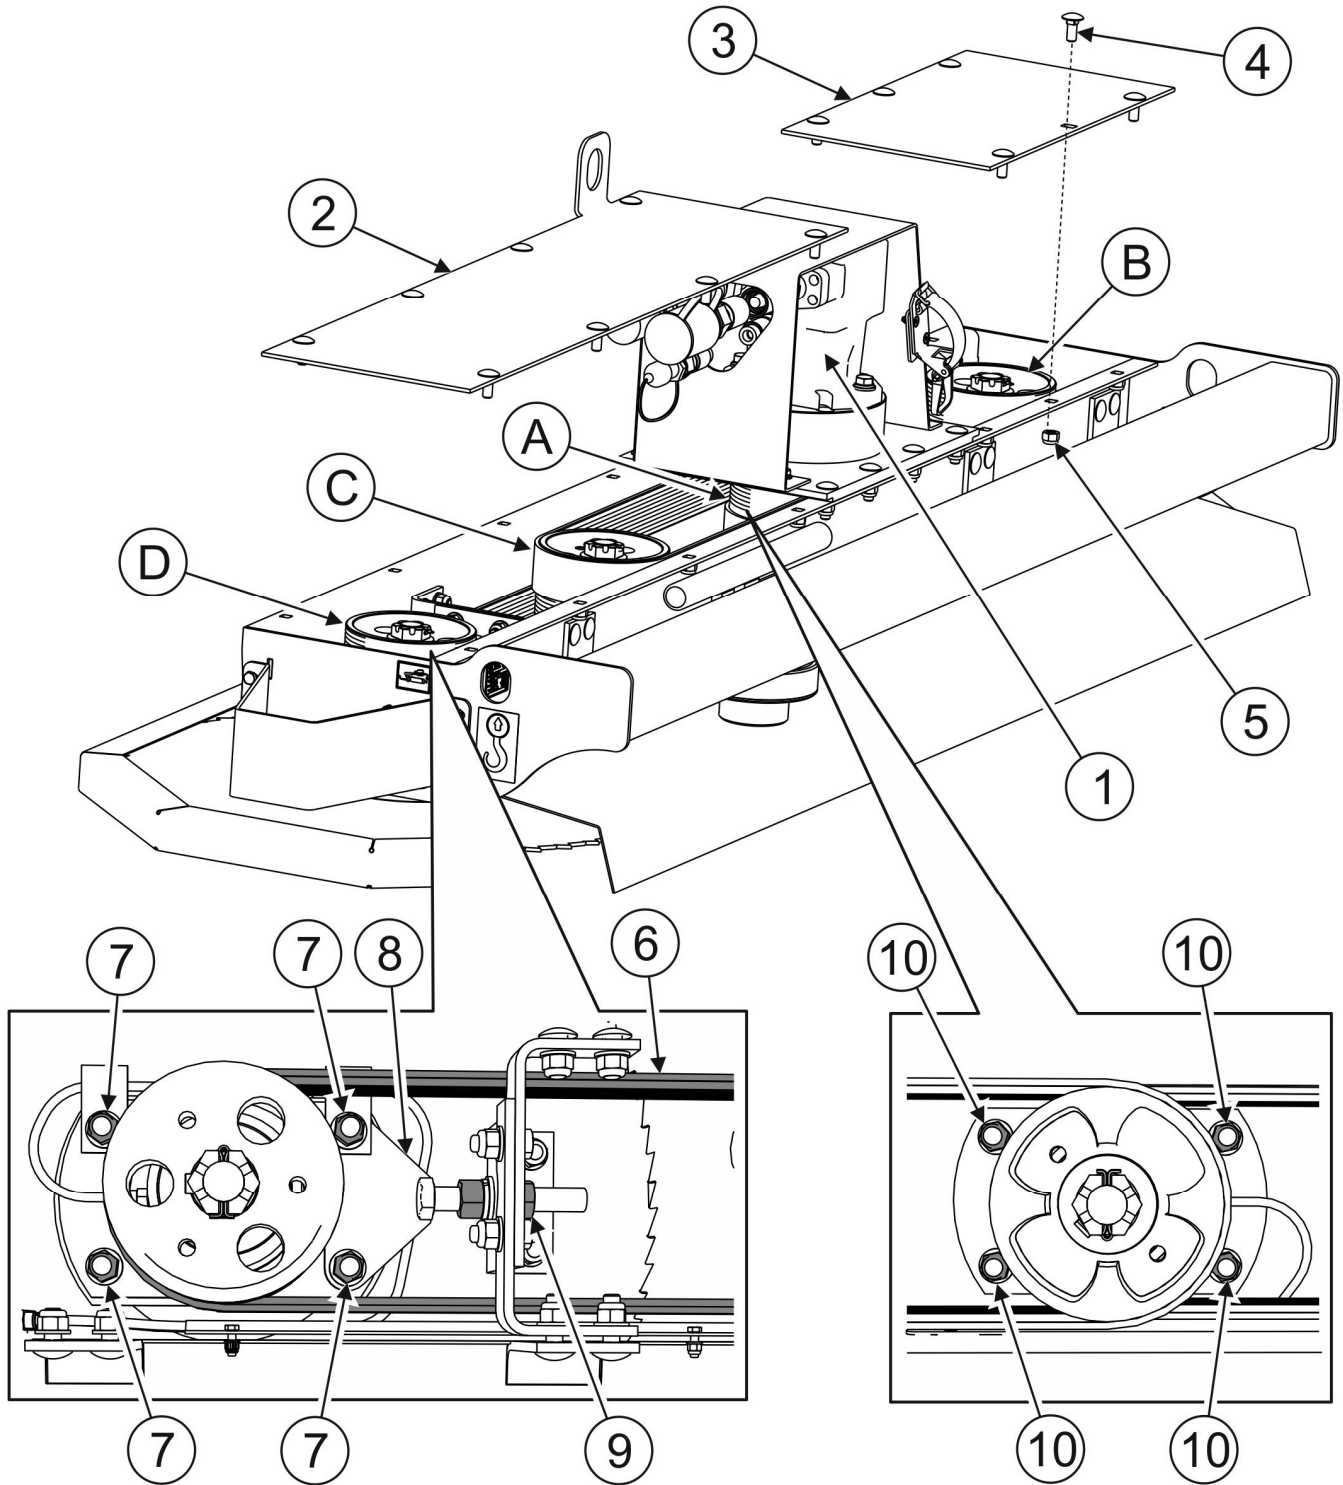
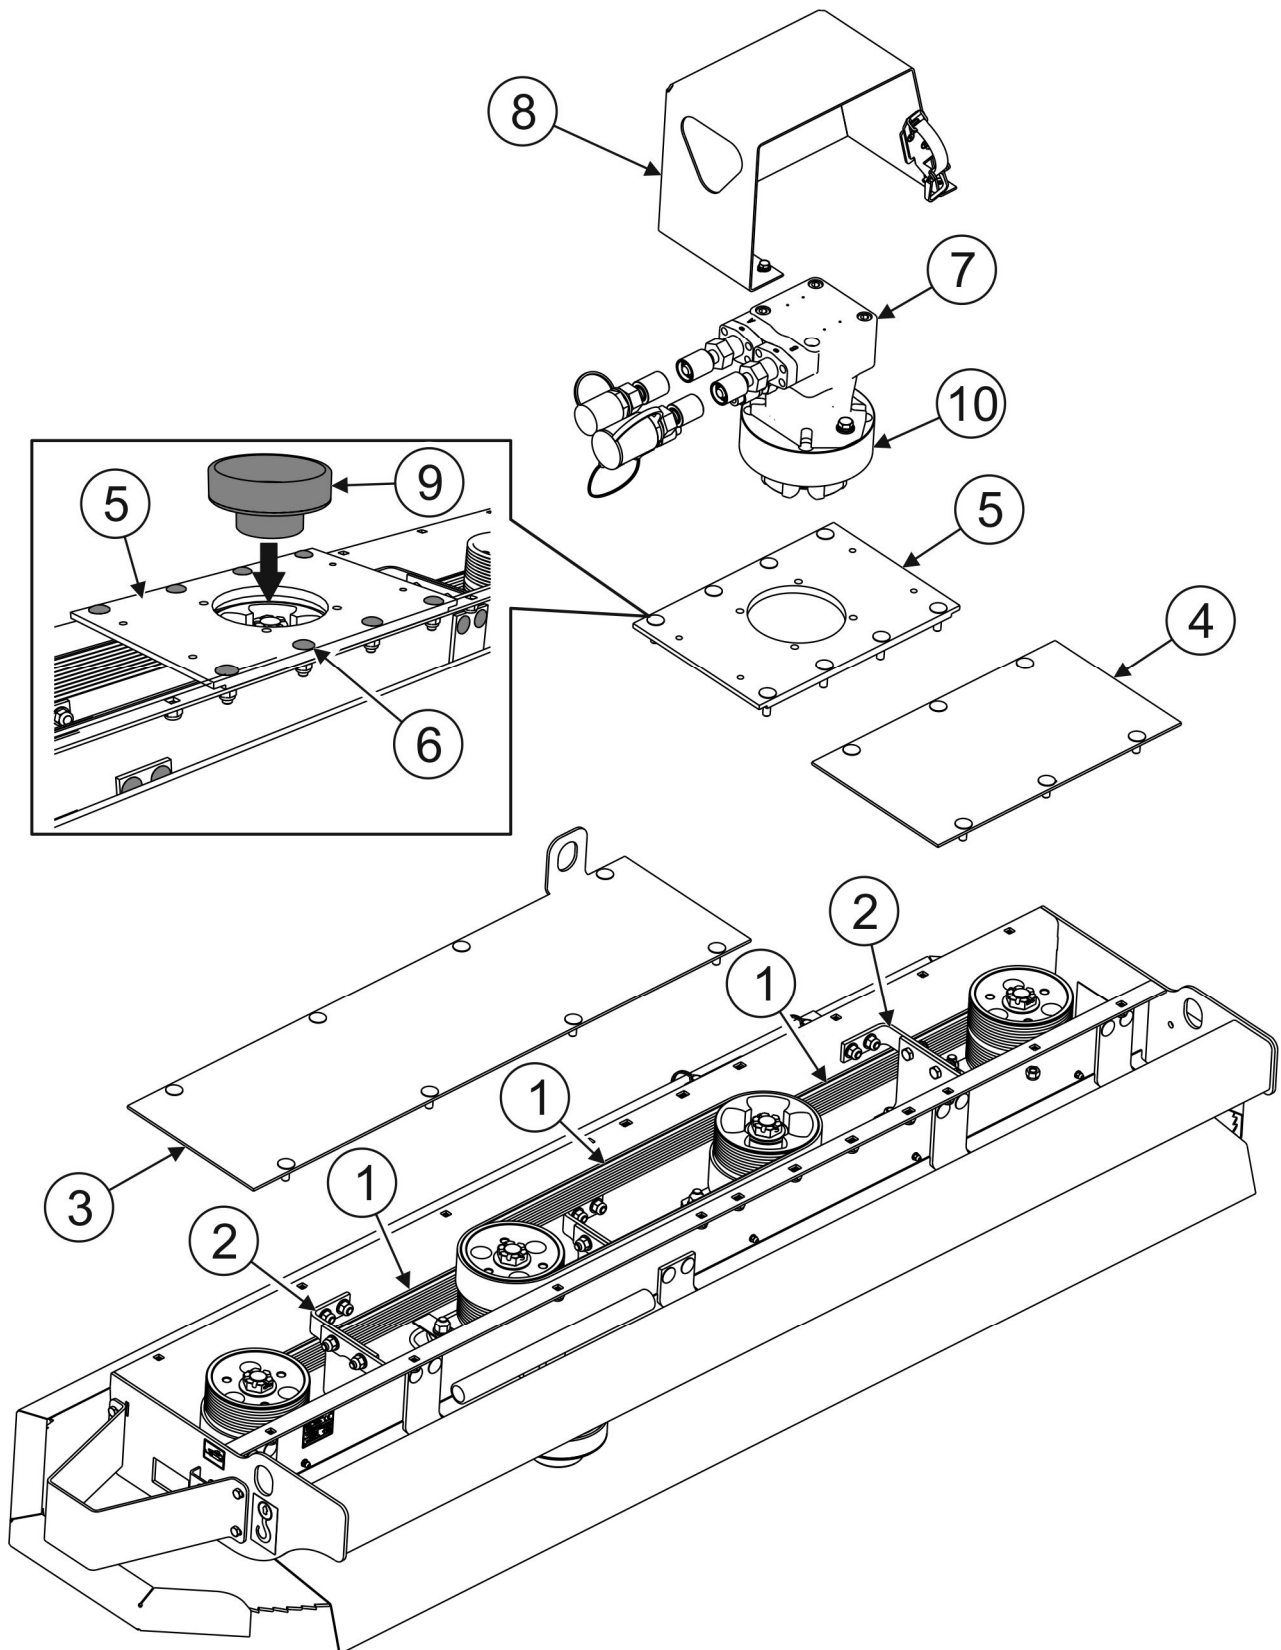

FIGURE 5.4 Checking and adjusting the tension of the serpentine belts
FIGURE 5.5 Replacement of serpentine belts
The inspection of the serpentine belts (6) (FIGURE 5.4) involves checking the technical condition and tension of the belts. To gain access to the serpentine belts, dismount two top covers (2) and (3) of the saw drive system.
Before checking the serpentine belts tension, check tightening of the bolts (10) that fix the bracket of the pulley (A) of the hydraulic motor (1) (FIGURE 5.4).
(1)- serpentine belts; (2)- tensioner bracket; (3),(4)- cover; (5)- cover plate; (6)- bolts; (7)- hydraulic motor; (8)- motor shield; (9)- centring sleeve; (10)- motor spacer.
If one of the belts is damaged, replace it. There are three serpentine belts (part number: 10 PL 1397) in the drive transmission system. To replace the serpentine belt, dismantle the covers (3) and (4) (FIGURE 5.5) and the tensioner bracket (2). To replace the drive belts installed on the motor pulley, dismantle also the motor shield (8), the hydraulic motor (7) together with the motor spacer (10) and the cover plates (5). After dismantling the tensioner bracket (2) and the motor, loosen the bolts (7) (FIGURE 5.4) that fix the pulley bracket and then, move the pulley so far as to make it possible to remove the serpentine belt from the pulley.